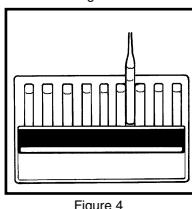

Figure 4
8. Place the ampoule between the color standards on the comparator until the best color match is found (fig. 4).